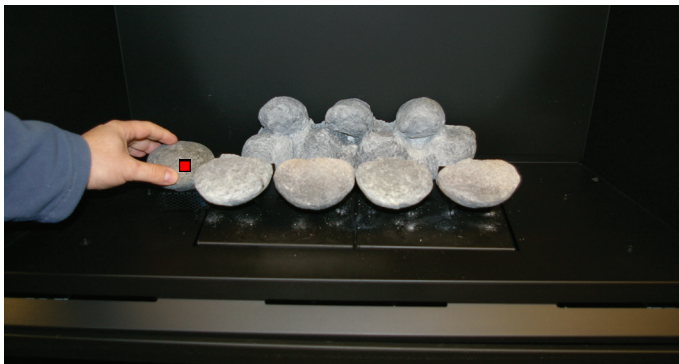

Figure 30d. Placement 1-faux ceramic rock "C", (on Pilot cover).
4. Place the Long front Left log (Log D) as shown in figure 30d. Angle log with knot pointing inward toward centre of firebox.
5. Place the Long front Right log (Log E) as shown in figure 30d. Angle log with knot pointing outward toward front of Fireplace.